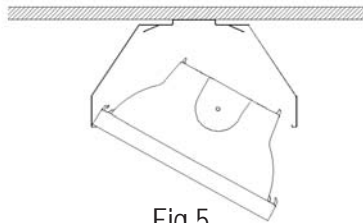

Fig 5
3. Install one side of housing in bracket (Fig 5)